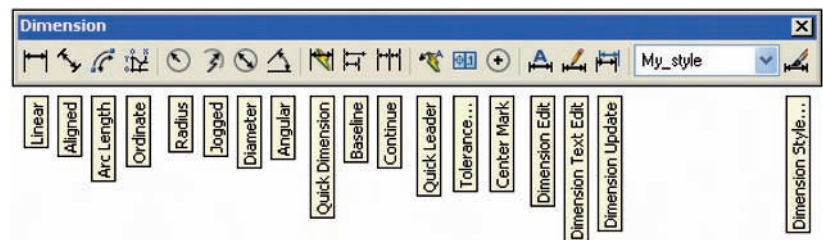

Fig. 6.3 The **Dimension** toolbar
3. From the **Dimension** toolbar (Fig. 6.3). The toolbar can be called to screen with a *right-click* in any toolbar on screen, followed by a **click** on **Dimension** in the popup menu which appears.
2. *Left-click* on the **Linear Dimension** tool icon in the **Command Tools** palette or on **Linear** in the **Dimension** toolbar (Fig. 6.3). The command line shows: